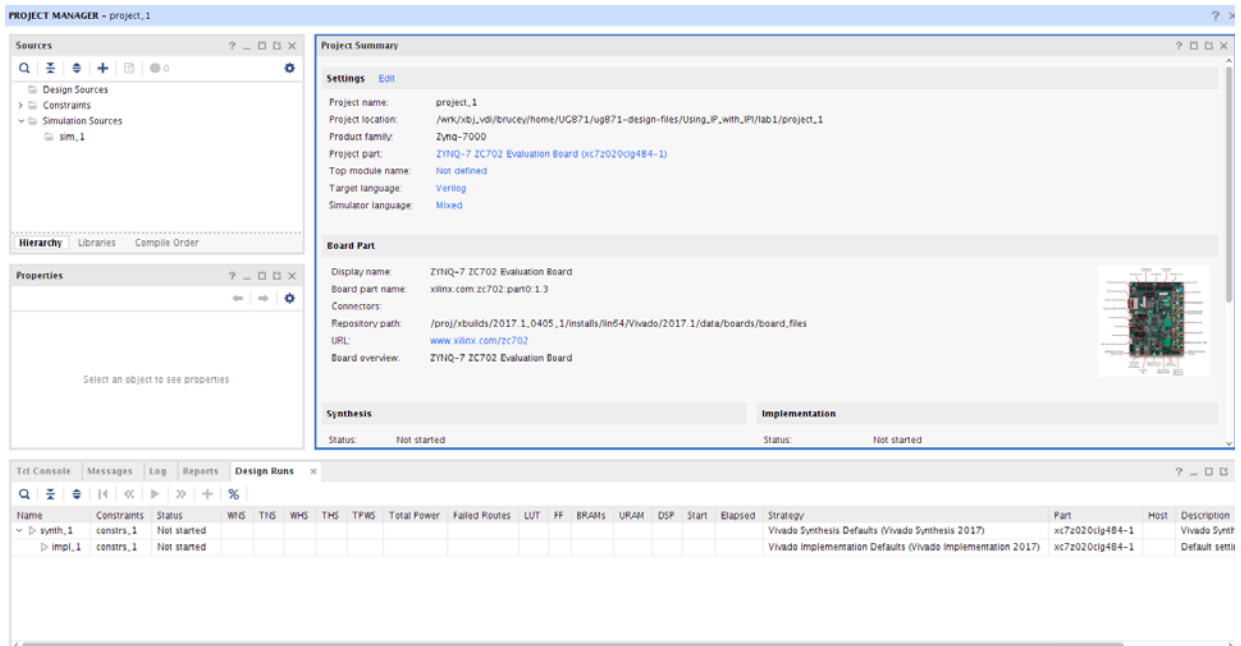

Figure 9-5: Vivado Project
- On the New Project Summary Page, click **Finish** to complete the new project setup. The Vivado workspace populates and appears as shown in Figure 9-5.